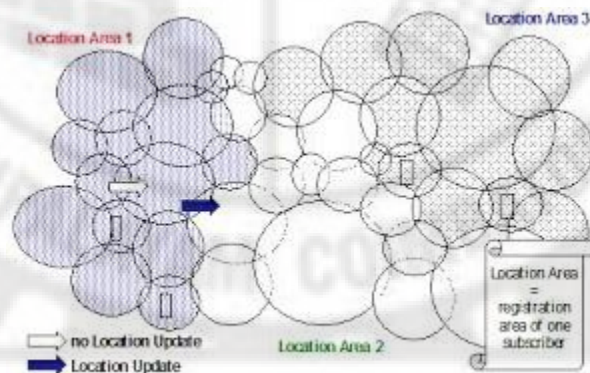

Figure 5.5 Location Update and Paging
located, it must be paged in all of them. To reduce load on networks, paging is done in small parts of a mobile an operators network. Mobile network operators group cells in administrative units called location areas (LA). A mobile phone is paged in only one location area. In every cell, system information is continuously transmitted. The system information includes the location area information. In the idle mode, the mobile phone is listening to this system information. If the subscriber moves hereby from one cell to the next cell, and the new cell belongs to the same location area, the mobile stays idle. If the new cell belongs to a new location area, then the mobile phone has to become active. It starts a communication with the network, informing it about it new location. This is stored in databases within the mobile network, and if there is a mobile terminated call, the network knows where to page the subscriber. The process, where the mobile phone informs the network about its new location is called Location Update Procedure (LUP).It is shown in Figure 5.5